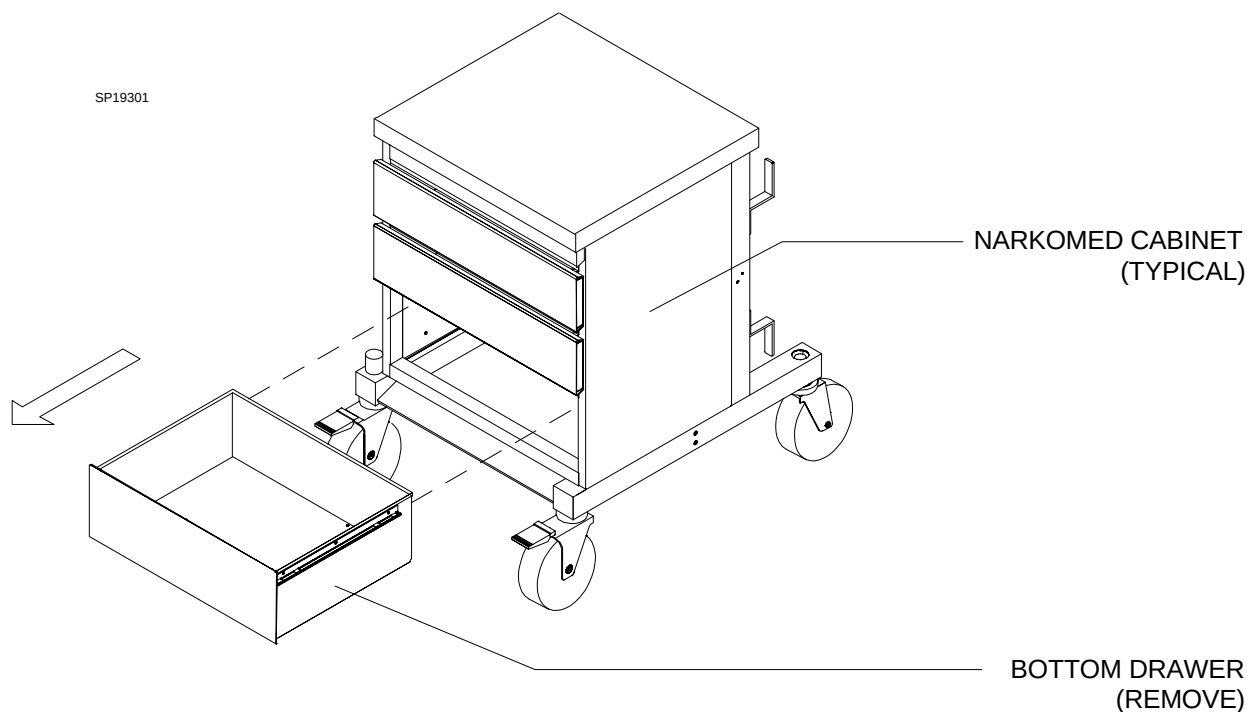

FIGURE 1. Cabinet Drawer Removal
2. Pull out the bottom cabinet drawer and remove it from the cabinet rails. See Figure 1.